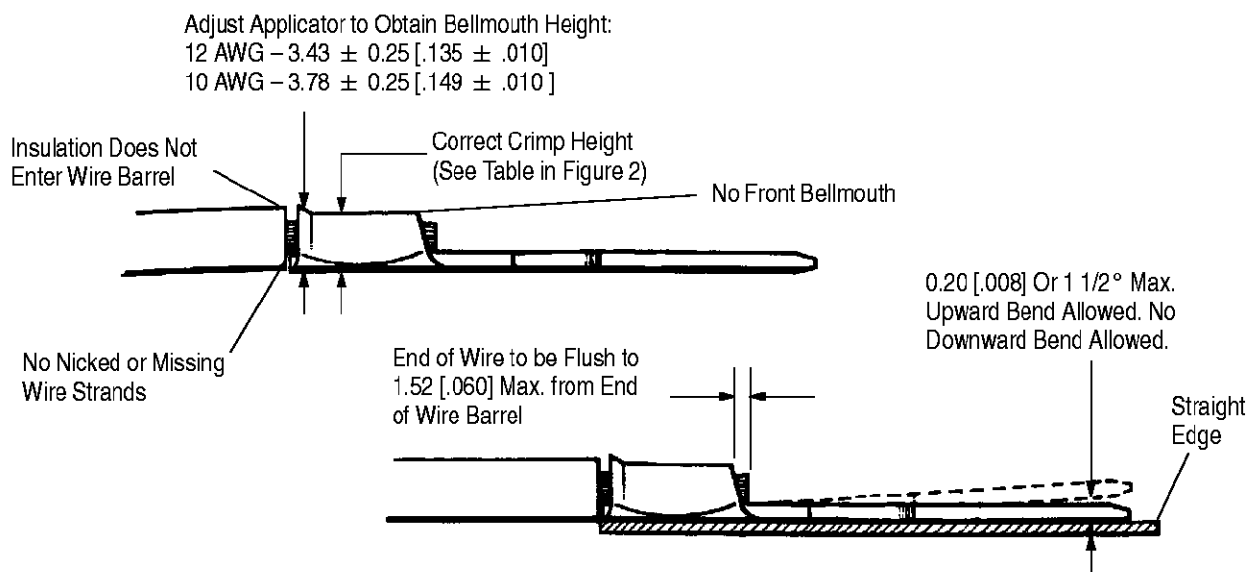

Figure 3
Inspect crimped contacts for conditions shown in Figure 3 (ref 408-3198).